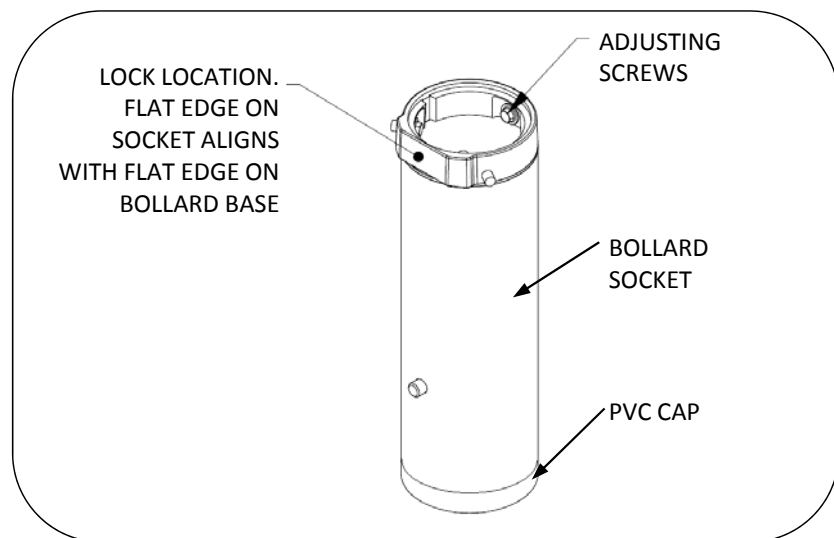

FIG. 3 - REMOVABLE BOLLARD ASSEMBLY
2. Before pouring concrete, make sure the socket is plumb and in the correct orientation. The top of the socket should be flush with the top of the concrete after installation. NOTE: An alignment guide is built into the assembly. The alignment guide consists of a flat edge on one of the components. This flat edge aligns with the Front of the bollard. See Fig. 3.
9. Using the 1/2" wrench, adjust the 3 screws inside the socket to adjust bollard alignment and to improve the fit of the bollard inside the socket. The bolts have nylon patches to resist movement after installation. See Fig. 3.